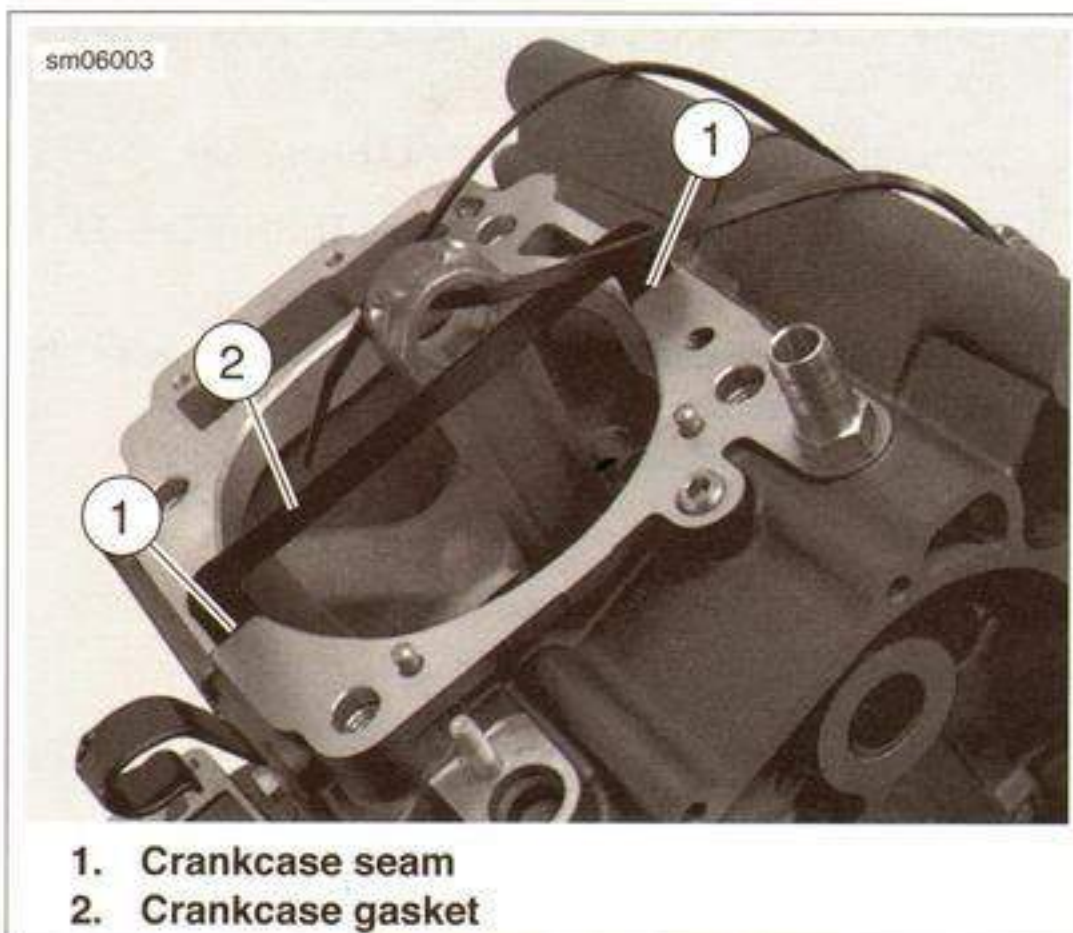

Figure 3-190. Crankcase Gasket
1. See Figure 3-190. Snap off crankcase gasket (2) protruding from front and rear cylinders. Using a honing stone, dress crankcase seam (1).